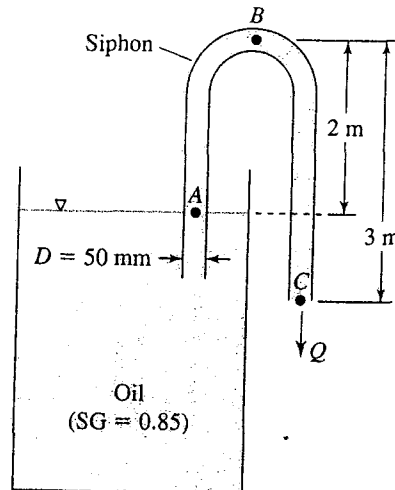

Figure 2
1. (b) Oil (SG = 0.85) is drained through the siphon ($D = 50$ mm) shown in Figure 2. What is the volume flowrate and mass flowrates?